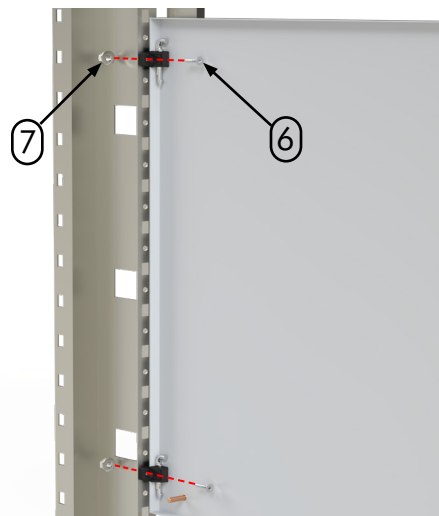

Figure 4
- Secure hinge assemblies using M6 countersunk screws (Item 6) through the inner hinge and a M6 nut (Item 7) at the rear of the TMK rail. See Figure 4.